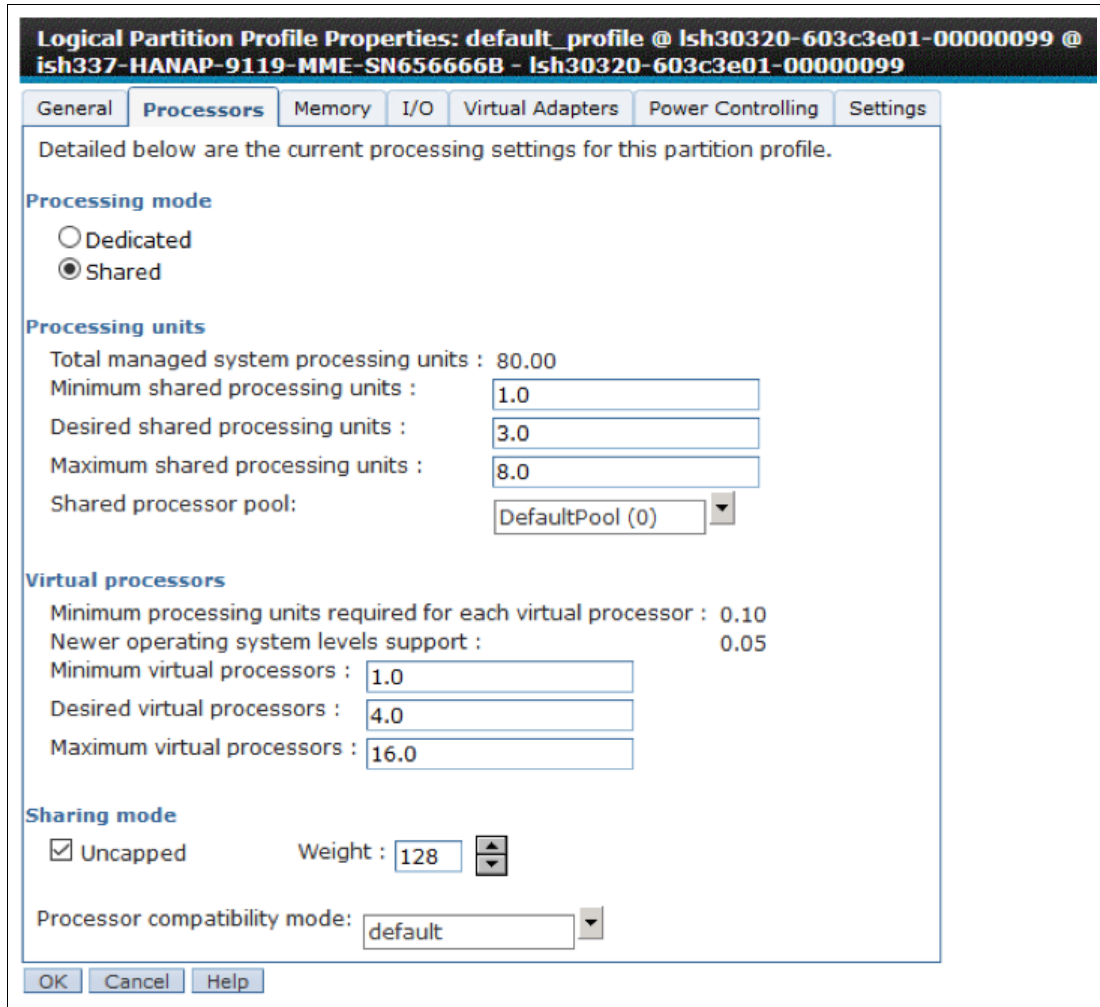

Figure 3-2 Processor window: Setting up the partition settings
3. The profile opens, as shown in Figure 3-2. Select the **Processors** tab, select the **Shared** option, and change the resources according to your requirements.
Figure 3-2 shows the partition requesting three physical CPUs. The partition is guaranteed a minimum of one and a maximum of 8 physical CPUs. The operating system (OS) in the partition sees four CPUs, and DLPAR operations can reduce them to one or increase them to 16 CPUs. The LPAR is configured as Uncapped, which means that it can use more processing resources if it requires them and if free resources in the pool are available. Uncapped is the recommended sharing mode for SAP environments with PowerVM.